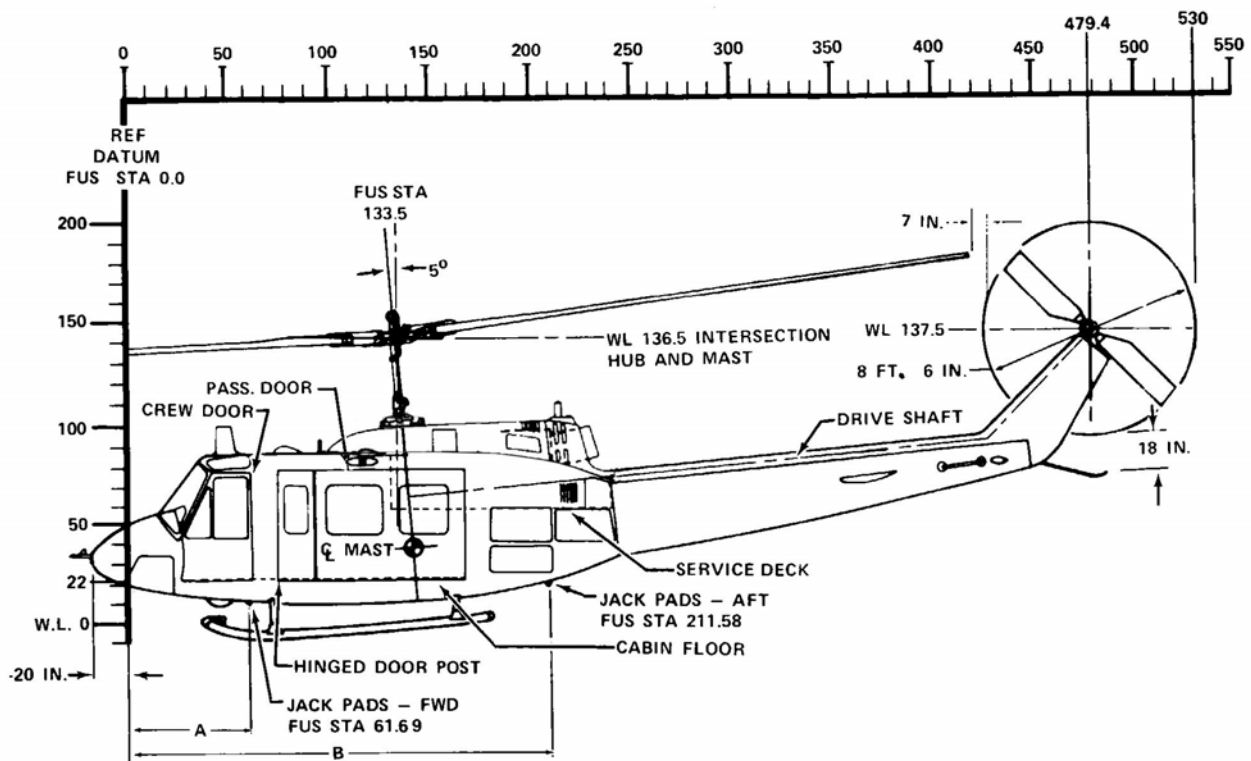

Figure 8-2. Weight and Balance
8.4.1 This distance from F.S. 0.0 to a line through centers of forward jack pads is called the forward arm. The distance from F.S. 0.0 to a line through the center of aft jack pads is called the aft arm. The forward arm is 61.69 in. (156.69 cm) and the aft arm is 211.58 in. (537.41 cm) (Figure 8-2).